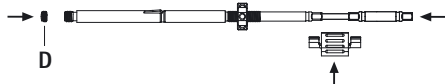

Fig. 10
- Insert the screwdriver in the lever threadpipe, secure it with the spacer and install locking screw **D**, see Fig. 10.